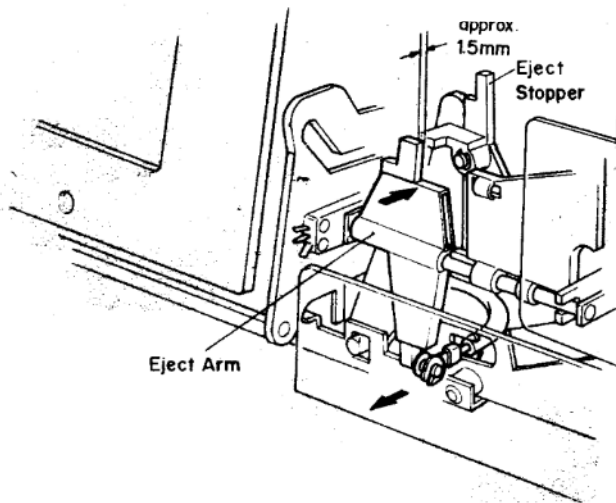

Fig. 5.16.1
- (1) Referring to Fig. 5.16.1, insert a 1.5 mm spacer between the Eject Arm and Eject Stopper by turning the Eject Arm in the illustrated direction, then set the N-480 in playback mode.